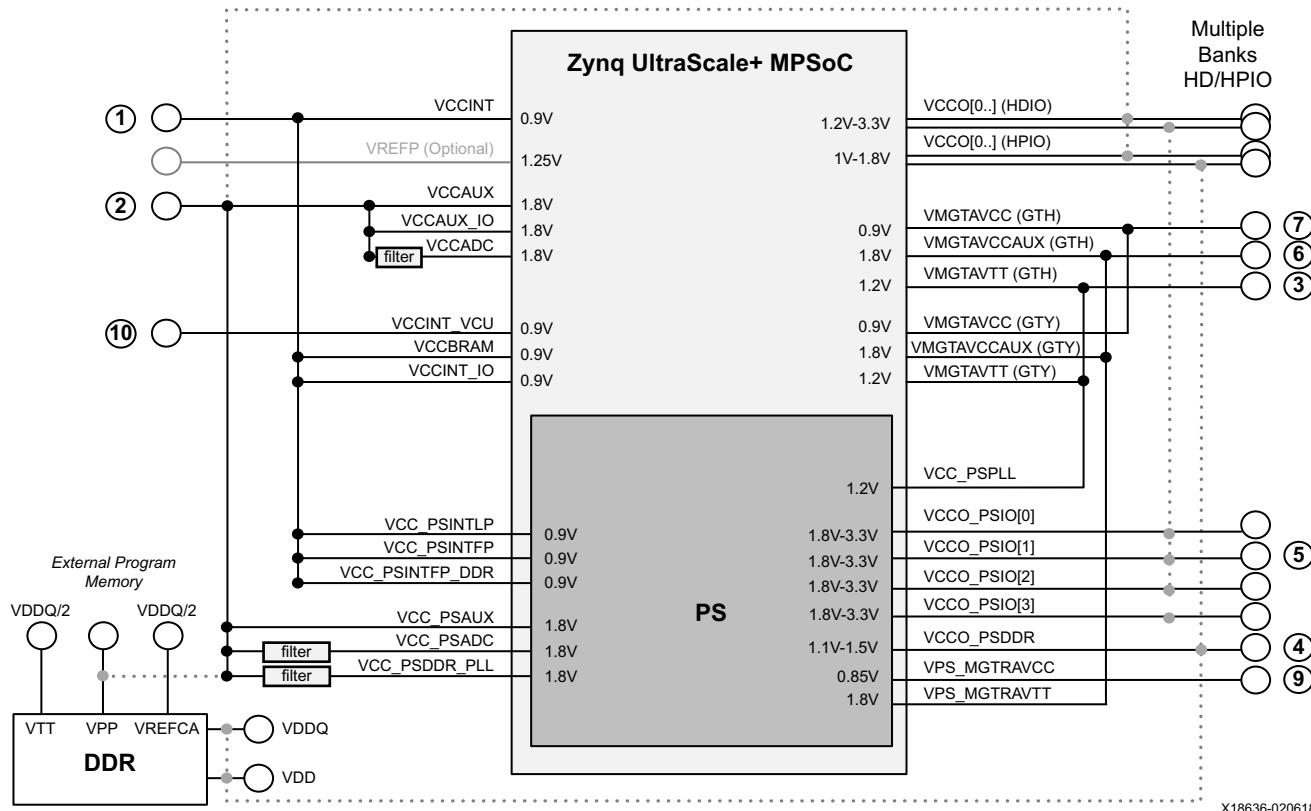

Figure 1-7: Always On: PL Performance-Optimized Rail Consolidation
Table 1-19 broadly defines the power rail consolidation that is possible for this use case, assuming the decoupling and filtering requirements on the individual supplies as outlined in this document are met. For further clarity, Figure 1-7 shows the possible power rail consolidation graphically. As shown in Table 1-19, the minimum number of power regulators required to power a Zynq UltraScale+ MPSoC in this use case is five for non-EV devices, and six for EV devices.
**Note:** In Figure 1-7, the dashed lines are dependent on the user configuration.